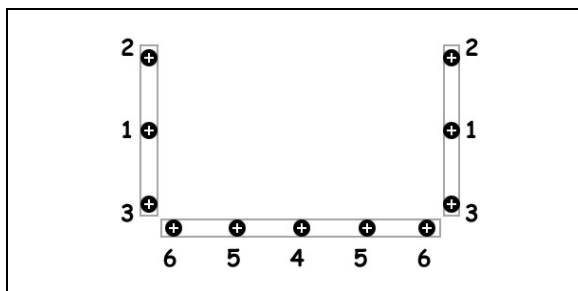

FIGURE 71 : CORRECT TIGHTENING SEQUENCE
- While a helper is pressing on the window from outside, install the awning window clamping frame and tighten screws according to the sequence shown in FIGURE 71;